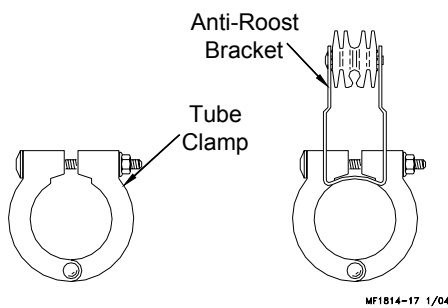

Figure 24. Tube Clamp & Anti-Roost Bracket
3. Place a Tube Clamp Assembly **or** Clamp/Anti-Roost Bracket at each joint. **Figure 24** shows the standard Clamp and Clamp/Anti-Roost Bracket.